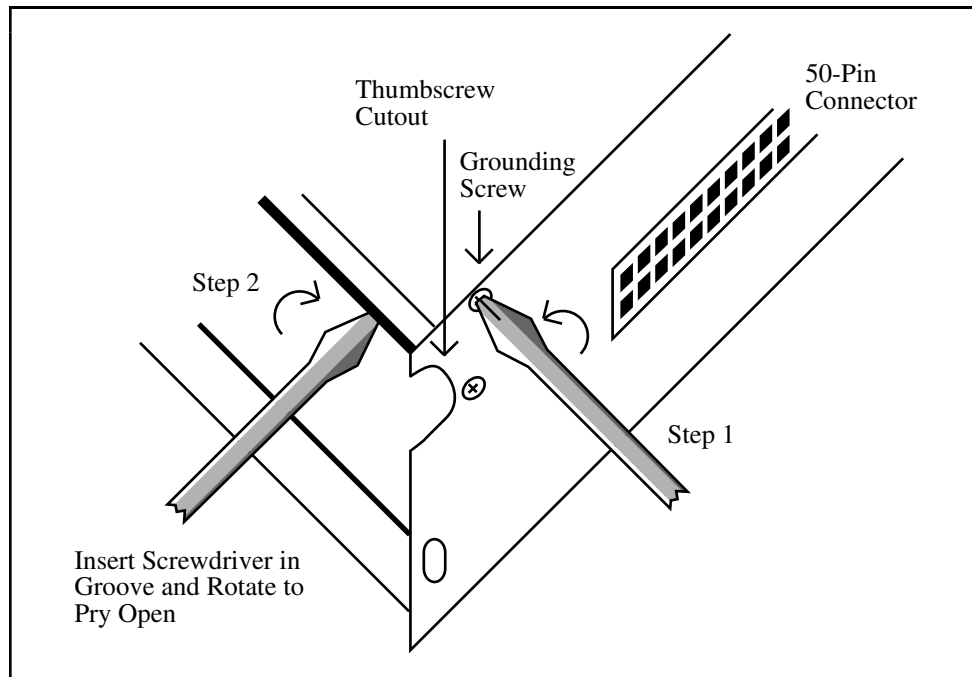

Figure E-5. Cover Removal
1. Unscrew the rear grounding screw on the back of the terminal block, as shown in Figure E-5.